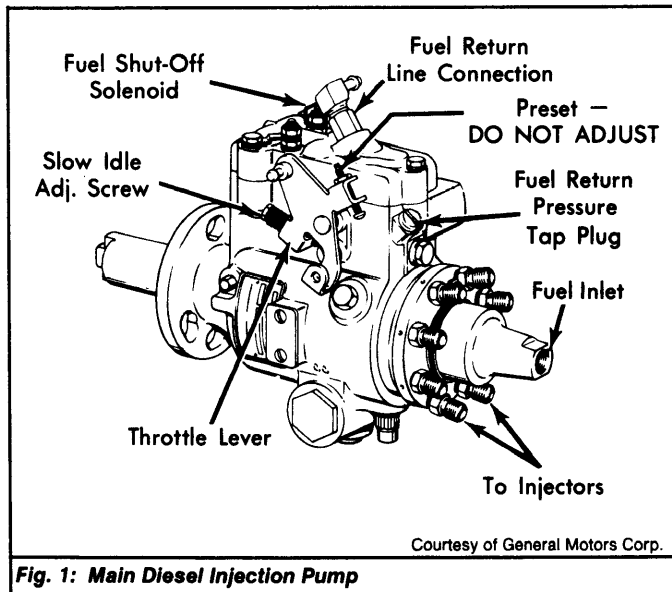

Fig. 1: Main Diesel Injection Pump
The Roosa-Master Diesel Injection pump is mounted to the top of the engine beneath the air crossover. This pump is cam driven and delivers fuel to the injectors at 1800-2000 psi. See Fig. 1.
1) Remove air crossover assembly. Install Screened Covers (J-26996-2) over openings in intake manifold. Remove pressure tap plug from injection pump. See Fig. 1.